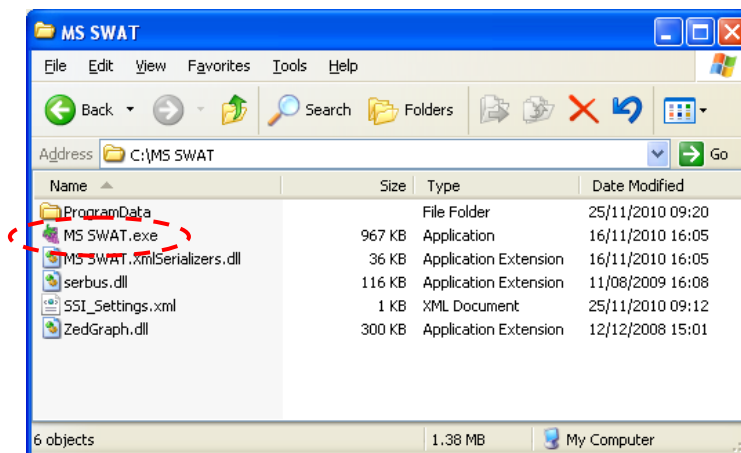

Figure 2
1. Once the installer has completed, navigate to the install directory. This should look like the example in Figure 2.
3. Double Click on MS SWAT.exe shown in Figure 2.